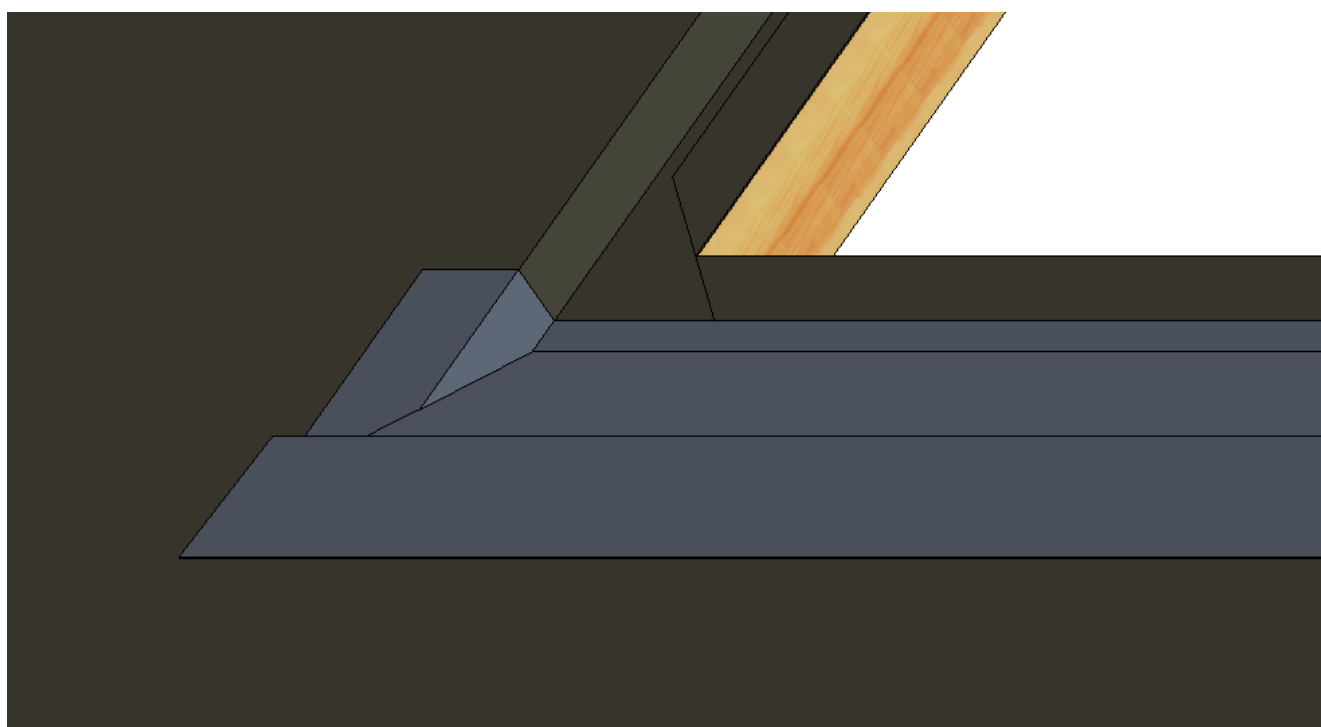

Fig. 3b – Cill flashing in position for a sunken installation
- The flashing should be at least 300mm longer than the external width of the product and should be installed centrally. For sunken installations the lead should extend beyond the sunken detail on either side (fig. 3b).